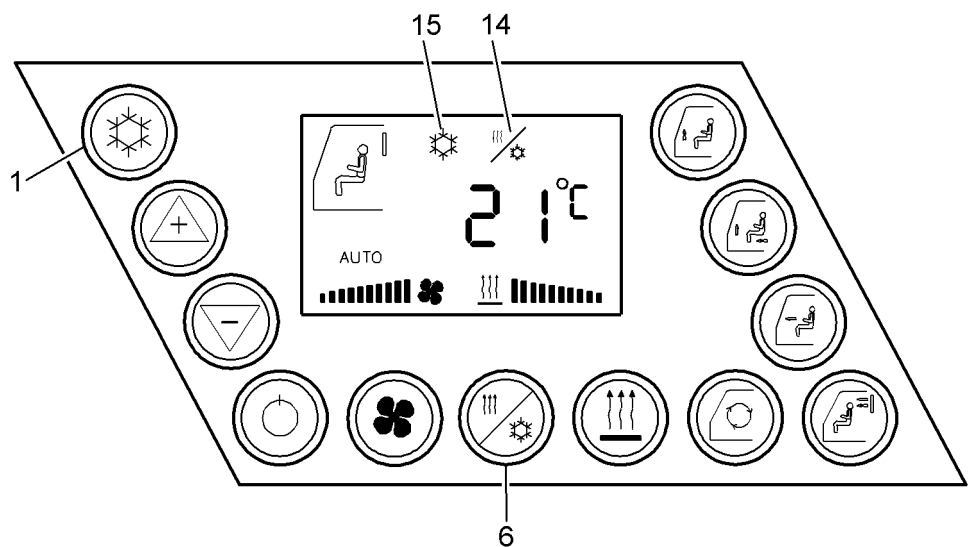

Fig. 3-50 Air conditioning
- If the machine is used for a longer period of time without using the air conditioner, operate the compressor every 2 weeks by pressing the REHEAT button **6** (siehe Fig. 3-50) .